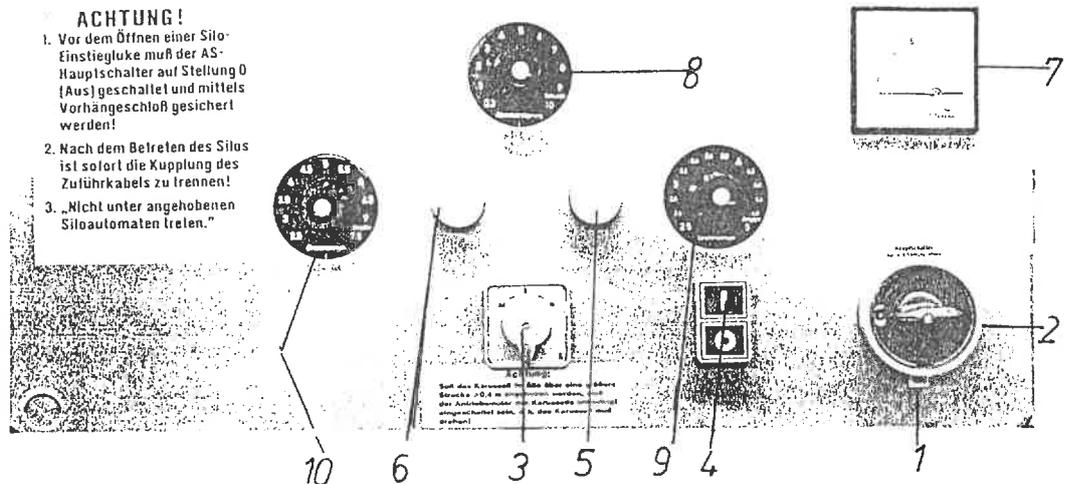
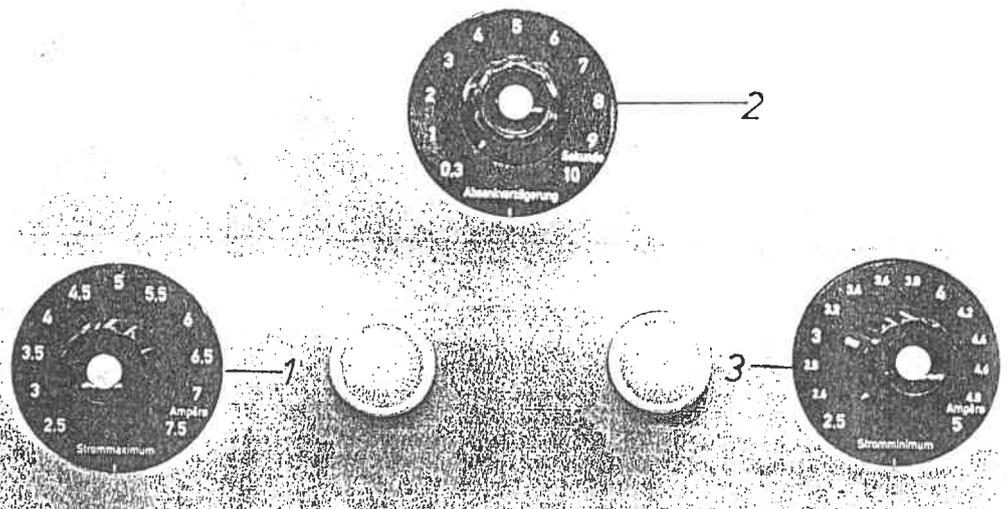
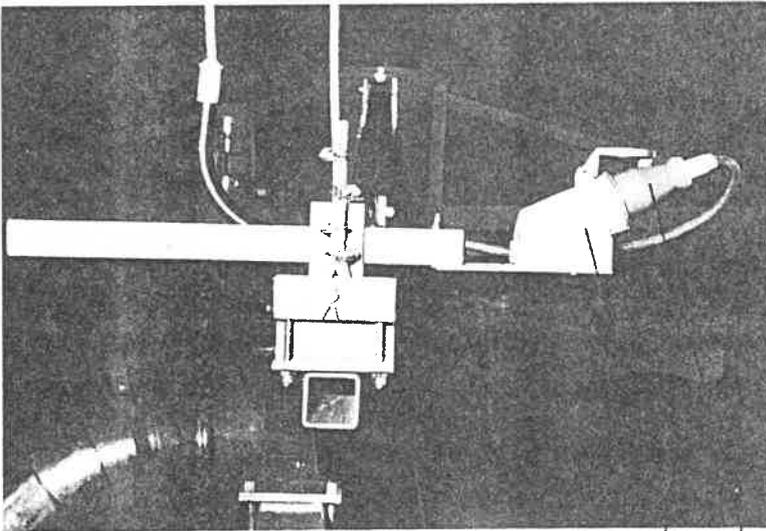

Fig. 1.1
Fig. 1.2
Fig. 2.1
For this, remove the safety padlock (Fig. 1.1/1), turn the main switch (Fig. 1.1/2) to "I", turn the selector switch (Fig. 1.1/3) to "Auf" ("Up") and hold it there for approximately 1 minute. The pilot light (Fig. 1.1/6) will come on.
- 1.2. Set the minimum-current relay (Fig. 1.2/3) to approximately 4 A.
- 1.3. Set the maximum-current relay (Fig. 1.2/1) to approximately 5 A.
- 1.4. Set the delay-time relay for lowering (Fig. 1.2/2) to 0.3 sec.
Press button "I" (Fig. 1.1/4). The pilot light (Fig. 1.1/6) will come for a short time and subsequently the other pilot light (Fig. 1.1/5) will come on.
- 1.6. Read off the current value of the idle running unloader on the ammeter (Fig. 1.1/7) and set this value on the minimum-current scale (Fig. 1.2/3).
- 1.7. Set the current-maximum scale (Fig. 1.2/1) by at least 0.8 A higher than the current-maximum scale (Fig. 1.2/3).
- 1.8. Set the delay-time relay for lowering (Fig. 1.2/2) to approximately 2.5 seconds.
- 1.10. Once the settings have all been made, turn the main switch (Fig. 1.1/2) to "0" and lock it with the padlock.
Before entering the silo, lock the main switch (Fig. 1.1/2) with the safety padlock and immediately on entering the silo disconnect the plug (Fig. 2.1) on the supply cable.
Turn the main switch (Fig. 1.1/2) to "I" and press the button "I" (Fig. 1.1/4). The filled material will be distributed over the whole area of the silo.
- Set delay-time relay for lowering (Fig. 1.2/2) to approx. 1 second
- Set maximum-current relay (Fig. 1.2/1) to approx. 0.2 A higher
- Set minimum-current relay (Fig. 1.2/3) to approx. 0.2 A higher
2.11. During the uninterrupted filling of the silo which then follows, the operator should keep a watch on the operation of the system by watching the pilot lights (Fig. 1.1/5+6) as they light up. If the unloader stops for any length of time it may so deeply buried in the material being filled into the silo that it is impossible for it to be pulled free.
3.1. The pilot lights (Fig. 1.1/5+6) fail to come on over a fairly lengthy period (approx. 1 minute).
- 3.3. The "Ab" ("Down") pilot light (Fig. 1.1/5) remains on continuously despite the fact that filling is going ahead.
- The plug (Fig. 2.1) has come out of its socket
- 3.4. The "Ab" ("Down") pilot light (Fig. 1.1/5) fails to come on.
- The current drawn by the drive motor of the unloader is more than the figure to which the minimum-current relay (Fig. 1.2/3) is set. This fault may for example be caused by voltage fluctuations in the supply.
- 3.5. The "Auf" ("Up") pilot light (Fig. 1.1/6) fails to come on despite a rising level of forage in the silo.
Turn switch (Fig. 1.1/3) to "Auf" ("Up").
- 4.1. Lock the main switch (Fig. 1.1/2) by means of a safety padlock.